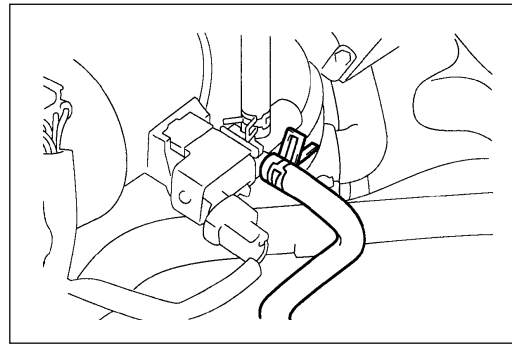

Figure 3-10
2. Check the fuel vapor discharge control system (see Figure 3-10).